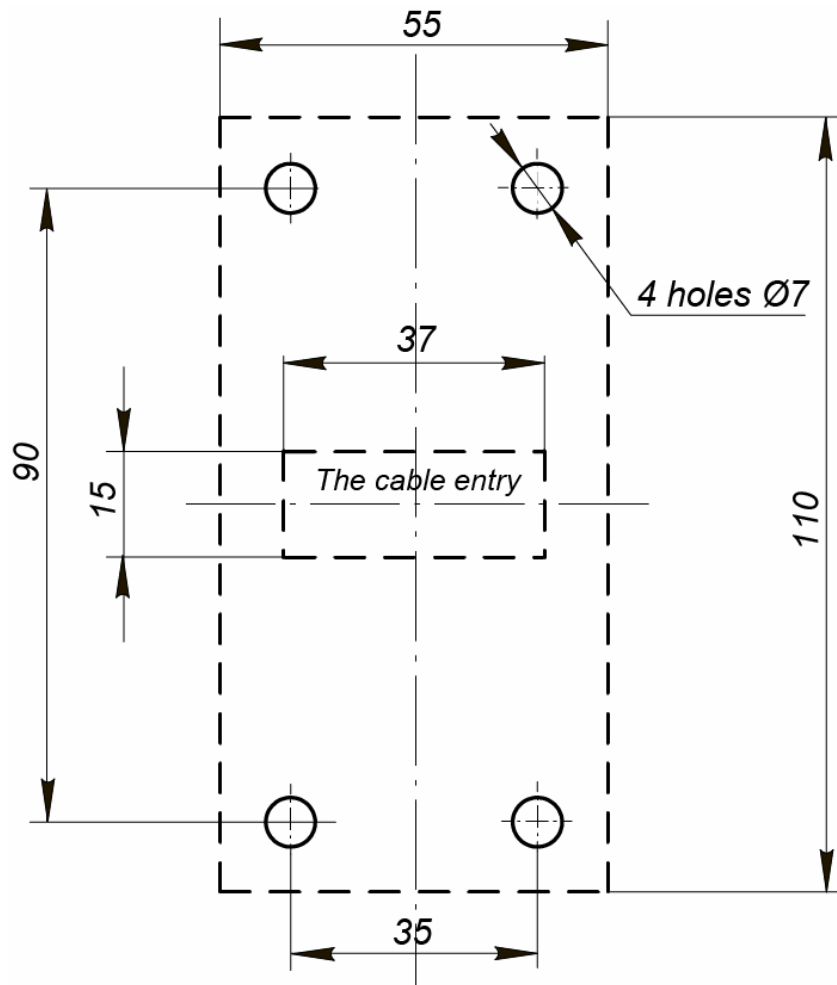

Figure 4. Mounting hole pattern for installation
4. Mark and prepare mounting holes for the mounting arm and cables in the installation surface according to Fig. 4.